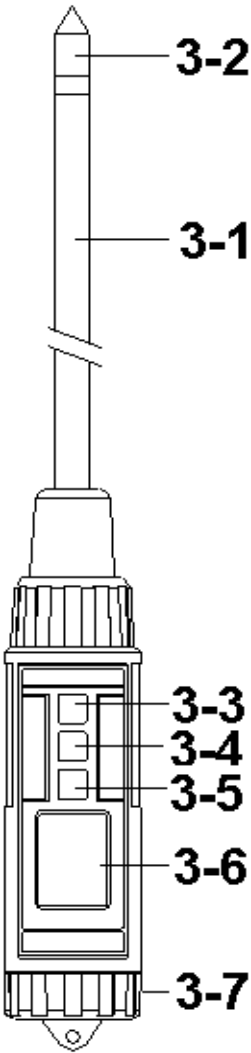

Fig. 1
- 1) Turn on the meter by pressing the " Power Button " ( 3-3, Fig. 1 ) momentarily.
*\* Press the " Power Button " ( 3-3, Fig. 1 ) momentarily again will turn off the meter.*
- 2) Insert the " Moisture sensing head " ( 3-2, Fig. 1 ) into the measured soil.
- \* During the measurement, press the " Hold Button " ( 3-4, Fig. 1 ) momentarily to hold the measured value. The LCD will show a " HOLD " symbol.
- 1) The data record function records the maximum and minimum readings. Press the " REC Button " ( 3-5, Fig. 1 ) momentarily to start the Data Record function, shows " REC " on the display.
- a) Press the " REC Button " ( 3-5, Fig. 1 ) momentarily, the " REC MAX " symbol along with the maximum value will appear on the display.
- b) Press the " REC Button " ( 3-5, Fig. 1 ) momentarily again, the " REC MIN " symbol along with the minimum value will appear on the display.
*\* When display shows " REC MAX " or " REC MIN ", press the " Hold Button " ( 3-4, Fig. 1 ) momentarily will delete the max. ( min. ) value, the display will show the " REC. " only and execute the memory function continuously.*
- \* To change the batteries, open ( rotate clockwise direction ) the " Battery Cover " ( 3-7, Fig. 1 ).
- \* Make sure the " Battery cover " (3-7, Fig 1) is secured after changing the batteries.